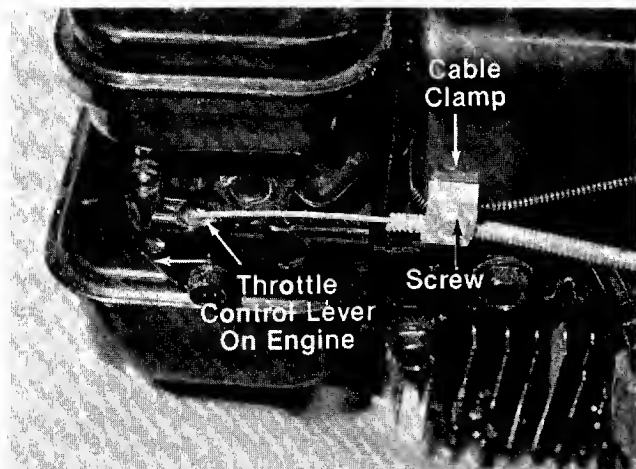

FIGURE 8.
10. Push the throttle control lever on the engine to the full open position (as far toward the outside of the unit as it will go) as shown in figure 8.
12. Loosen (do not remove) the screw on the cable clamp shown in figure 8. Slip the control casing under the clamp. With the throttle lever on the engine still in the full open position, tighten the screw to secure the throttle control cable.